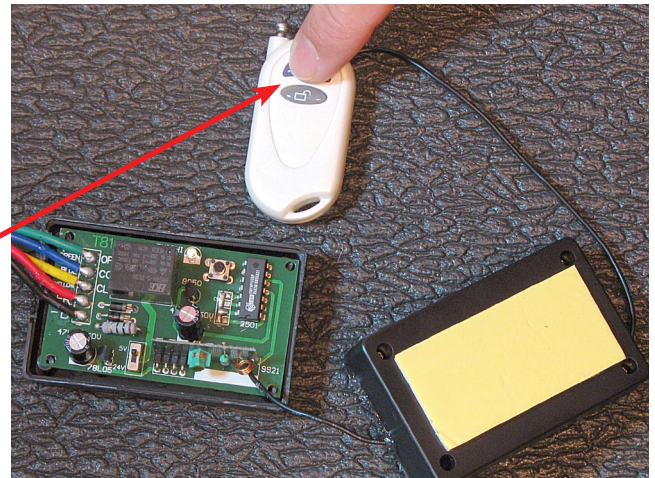

Fig. 5
7) Within 3 seconds of the LED lighting, press the LOCK button on the remote (Fig. 5). The relay will click and the receiver is programmed to the new remote. The previous remote's code has not been erased and both remote will not operate the RES.